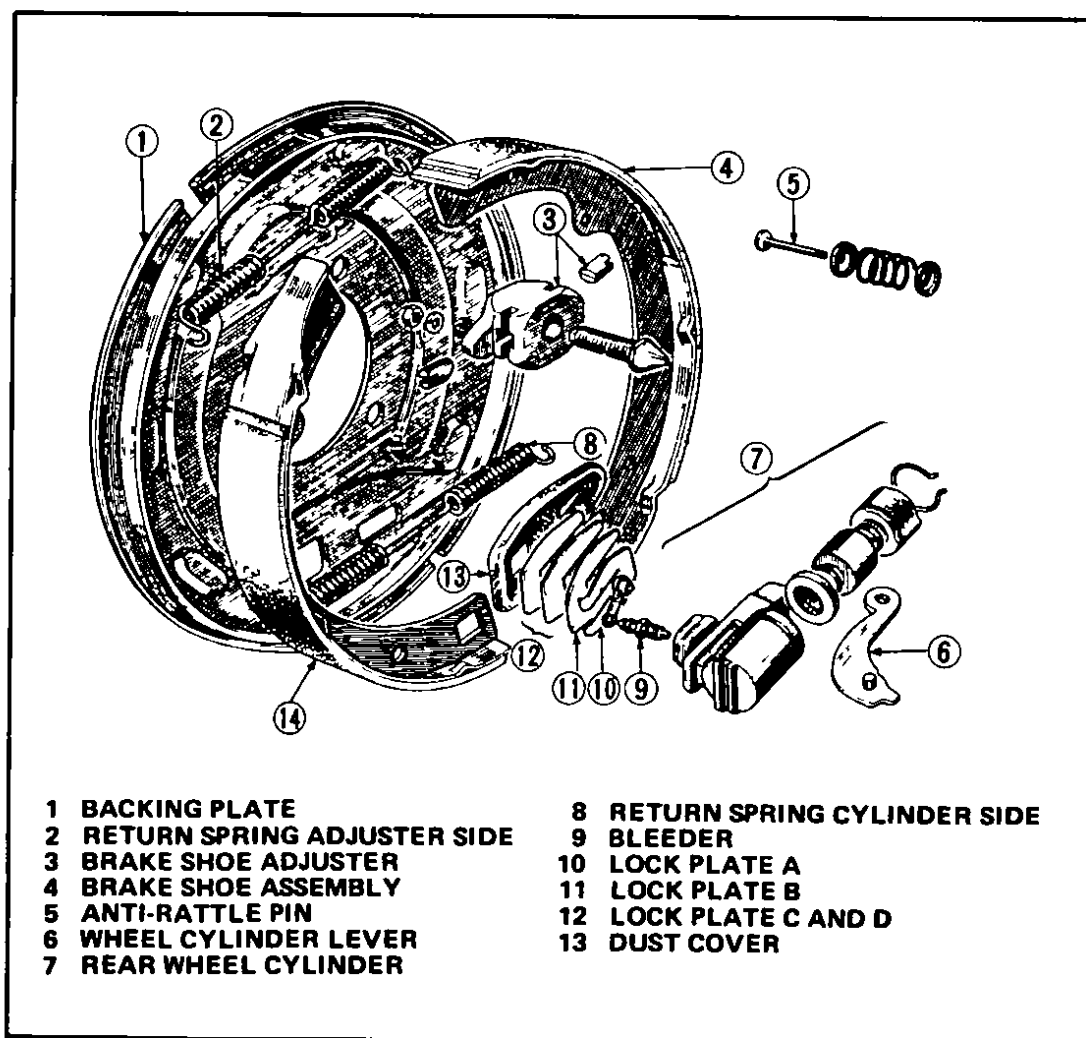

Fig. 114 Rear brake – All models
- 4 Turn pin 90° and remove anti-rattle springs, Fig. 114